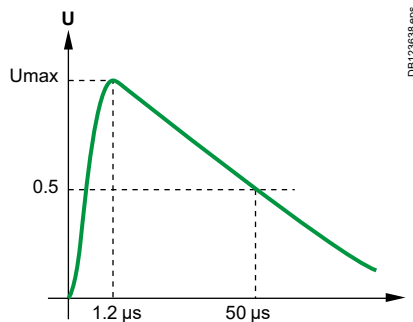
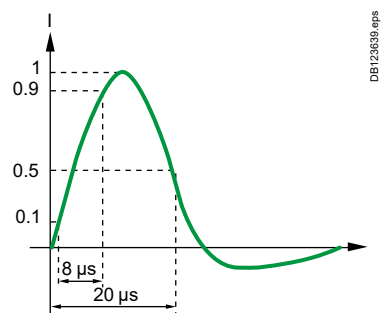

Fig. 2: normalized voltage waveform 1.2/50 μs
Fig. 4: normalized current waveform 8/20 μs
- lightning strikes: these voltage surges are represented normatively by a 1.2/50 μs voltage waveform (Fig. 2). The currents induced in the lines by these voltage surges are represented by a normalized 8/20 μs waveform (Fig. 4)